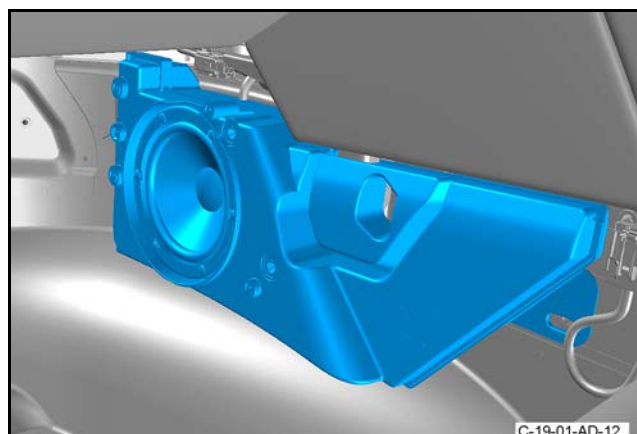

Figure 15
33. Put the footwell speaker in position (refer to Figure 15).